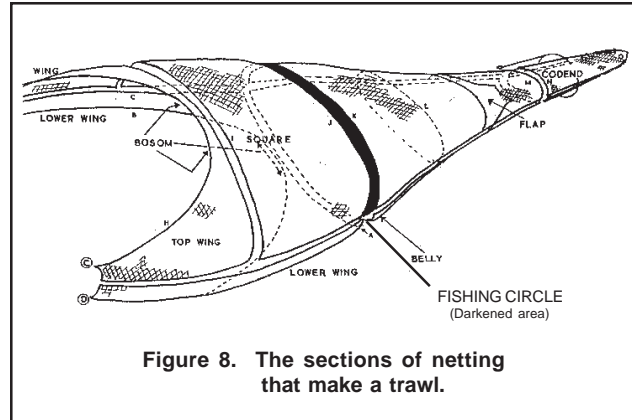

Figure 8. The sections of netting that make a trawl.
18. NUMBER OF MESHES: Record the number of meshes in the fishing circle. This information may be obtained from the captain. See Figure 8 for the location of the fishing circle.
NOTE: See Figure 8 for the location of the codend.
41. USED?: Record whether a escape outlet is used on this gear by placing an "X" next to the appropriate code (see Figure 8):